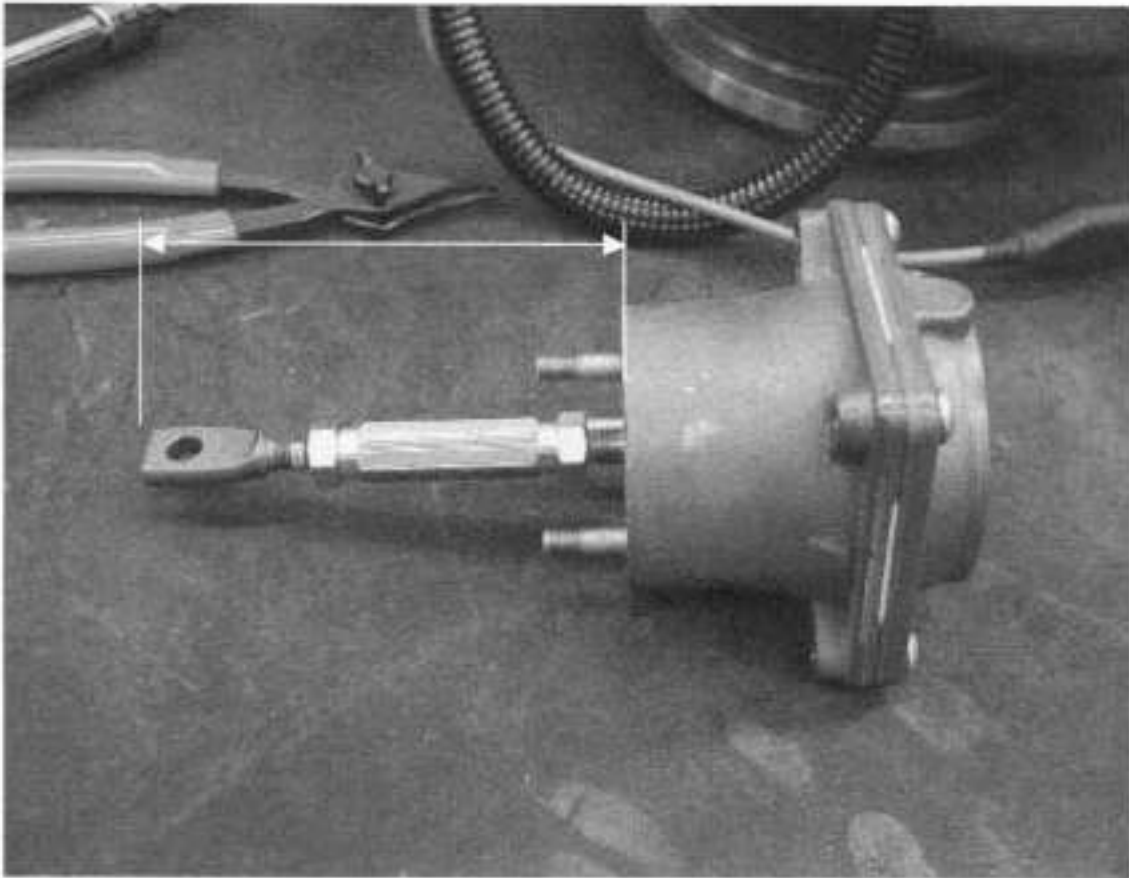

Figure 2.
6. Using a pocket scale, measure and record the approximate distance from the rod end to the base of the actuator can (See Figure 2).